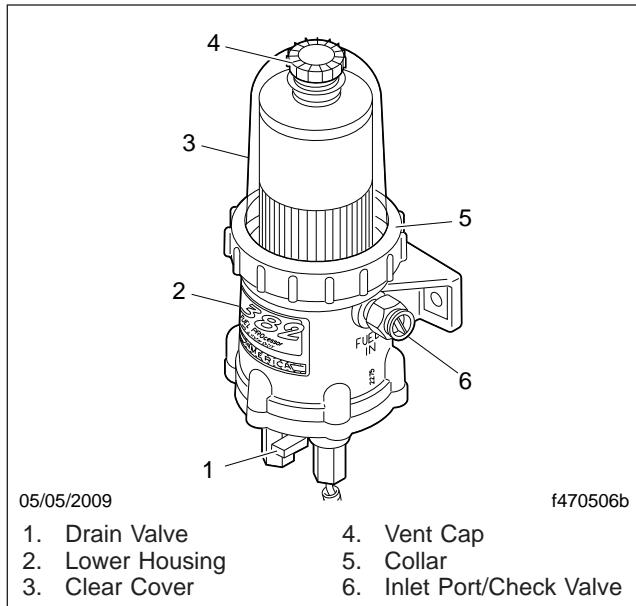

Fig. 24.2, DAVCO Fuel/Water Separator (Fuel Pro 382 shown)
3. Remove the vent cap (**Fig. 24.2**, Item 4) and open the drain valve (**Fig. 24.2**, Item 1) to drain the fuel to just below the collar level, then close the drain valve.